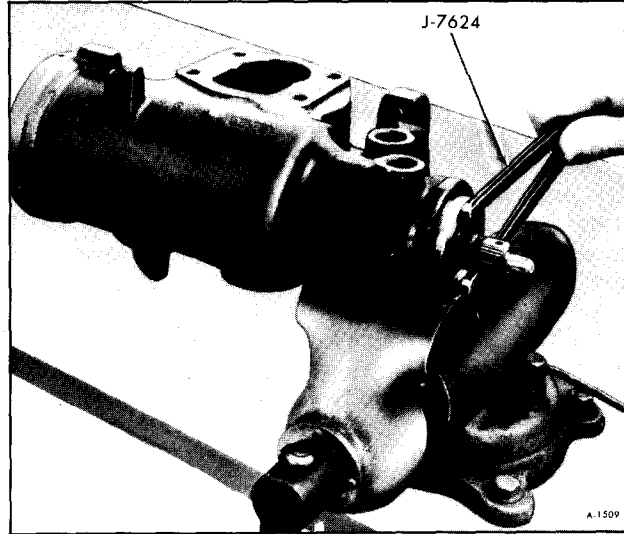

Figure 29—Removing Adjuster Plug
b. Remove adjuster plug assembly with Spanner Wrench J-7624 (figure 29). Remove and discard the adjuster plug "O" ring.